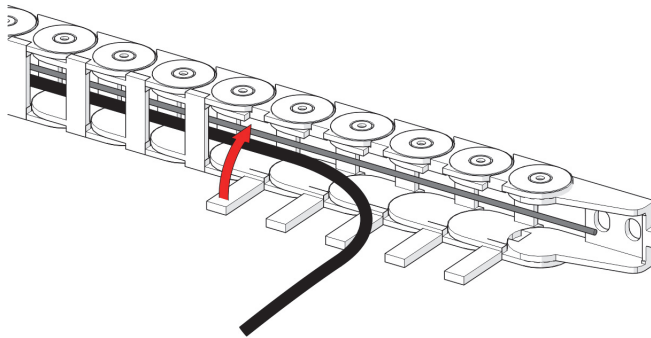

Figure 2-45 Route cabling and close flaps
2. Route all hoses and cables into the cable tray. Clip the flaps to trap the cables in the cable tray (see Figure 2-45 on page 86).